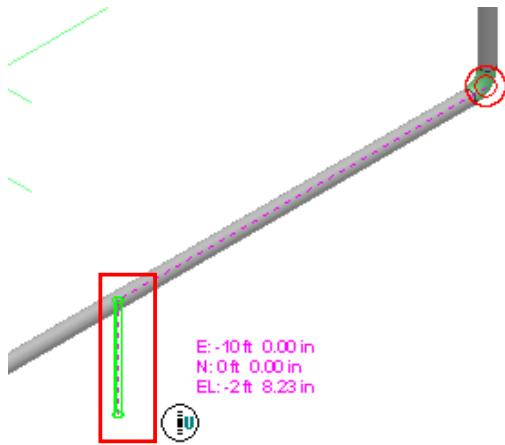

Figure 19: Placed Pipe Run
9. You now see an outline of the pipe run in the graphic view. Click to place the pipe run, as shown in Figure 19.